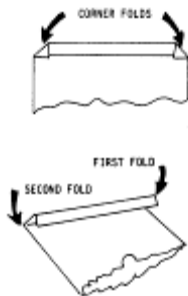

Figure 3-2
1. Properly install paper envelope over the filter screens. Fold the open end of the envelope, and clamp with retaining clips so that crumbs cannot enter. Figure 3-2.